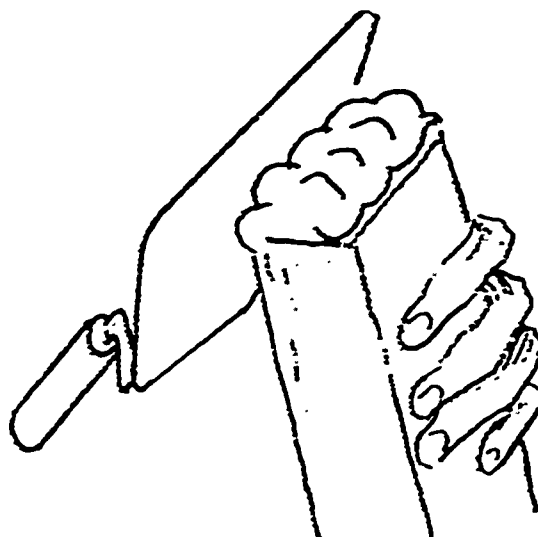

FIG. 512
2. Select the type of bond to be used. See figure 512.
apply mortar ($3/4$ ") to the end butting against the previous brick. See figure 512.